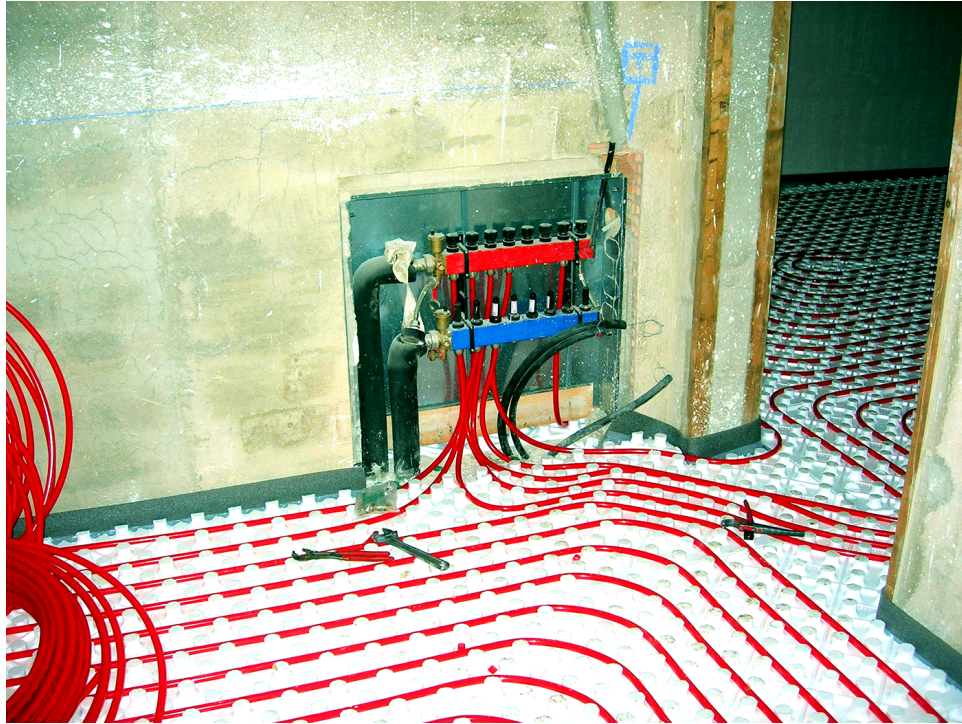

Figure 18 In-floor radiant tubing connected to manifold. (Chixoy/ Wikimedia Commons) CC BY-SA 3.0 (<https://creativecommons.org/licenses/by-sa/3.0/deed.en>)
Some radiant panel systems have the PEX tubing laid in concrete or gypsum (Figure 18). This is known as a “wet system.” The concrete or gypsum provides a thermal mass that acts like a big storage tank for heat, absorbing and retaining it. High thermal mass heat transfer units are generally slow to react to a change in temperature, but will hold their heat longer than low-mass units.
- **Figure 18** Collector terra radiant i tubs (https://commons.wikimedia.org/wiki/File:Col%C2%B7lector_terra_radiant_i_tubs.JPG) by Chixoy, via Wikimedia Commons, is used under a CC BY-SA 3.0 (<https://creativecommons.org/licenses/by-sa/3.0/deed.en>) liense.